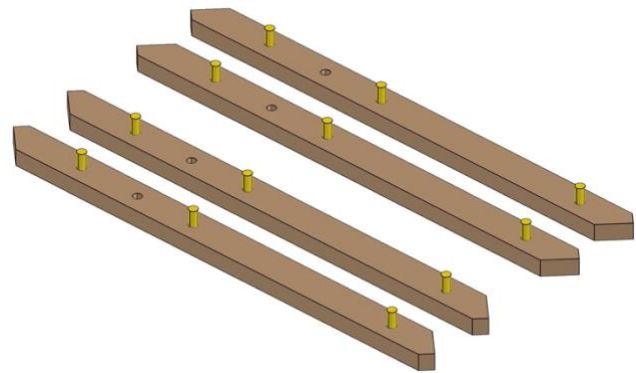

Fig. 18
- Fig. 18 shows the completed process for all four G1 pieces.